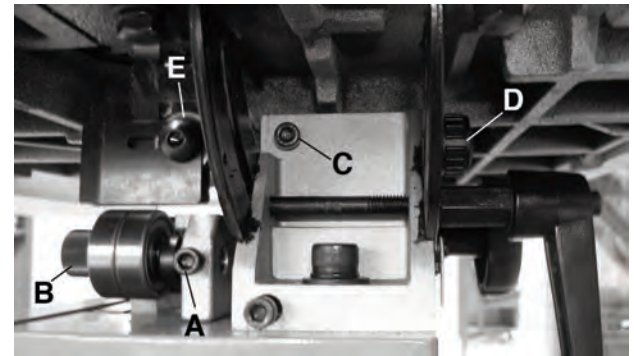

FIGURE 10
1. Loosen cap screws (A) Fig.10 on both sides, turn both cap screws (B) to widen the gap between the ball bearings.
2. Loosen cap screw (C) Fig.10, turn the position adjusting knob (D) to move the lower thrust bearing (E) backwards away from the blade.
5. To adjust the lower thrust bearing (E) Fig.10, loosen cap screw (C), turn the position adjusting knob (D) to move the lower thrust bearing (E) towards blade until it is approx. 0.016" at the rear of the blade. Retighten cap screw.